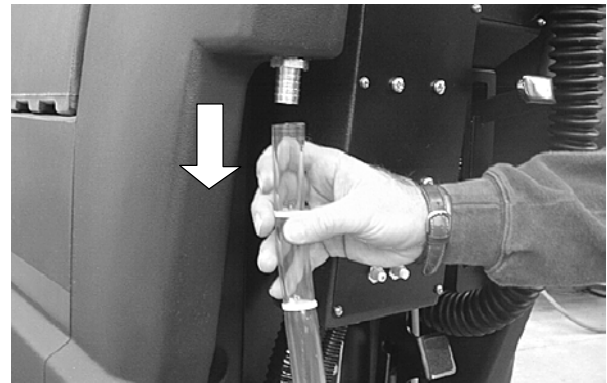

FIG. 17
1. Pull solution tank drain hose (clear hose) off hose barb at rear of machine and drain solution into floor drain or bucket (Figure 17).